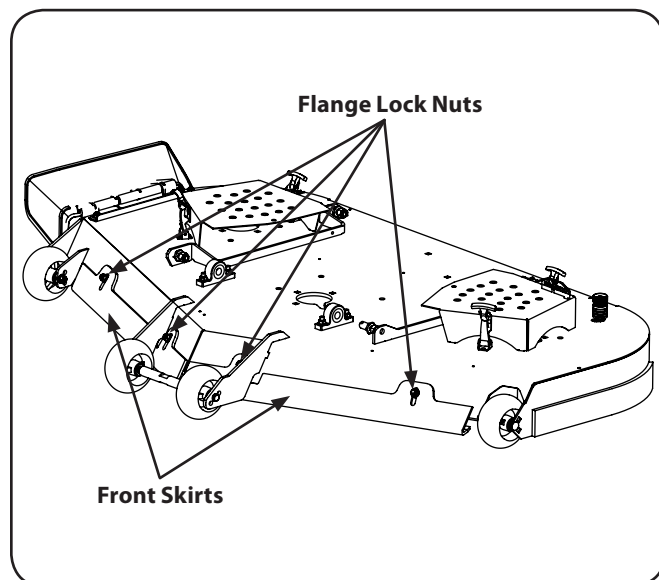

Figure 6-11
1. Loosen — but do not remove — the nuts securing the skirt, place in the proper position and then retighten the nut. See Fig. 6-11.